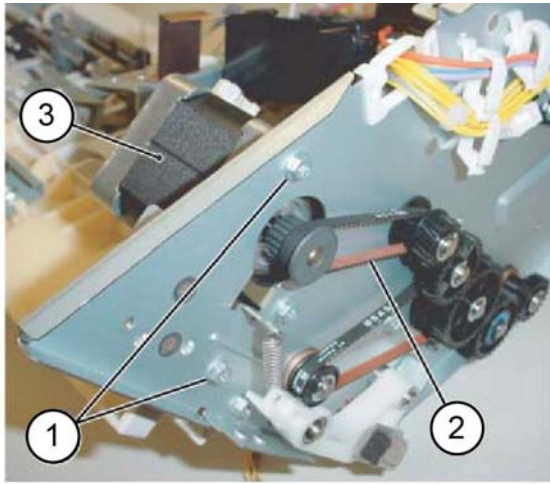

Figure 1 Transport motor removal
3. Remove the transport motor, Figure 1:
- a. Remove two screws (1).
- b. Remove the belt (2) from the pulley.
- c. Remove the transport motor (3).